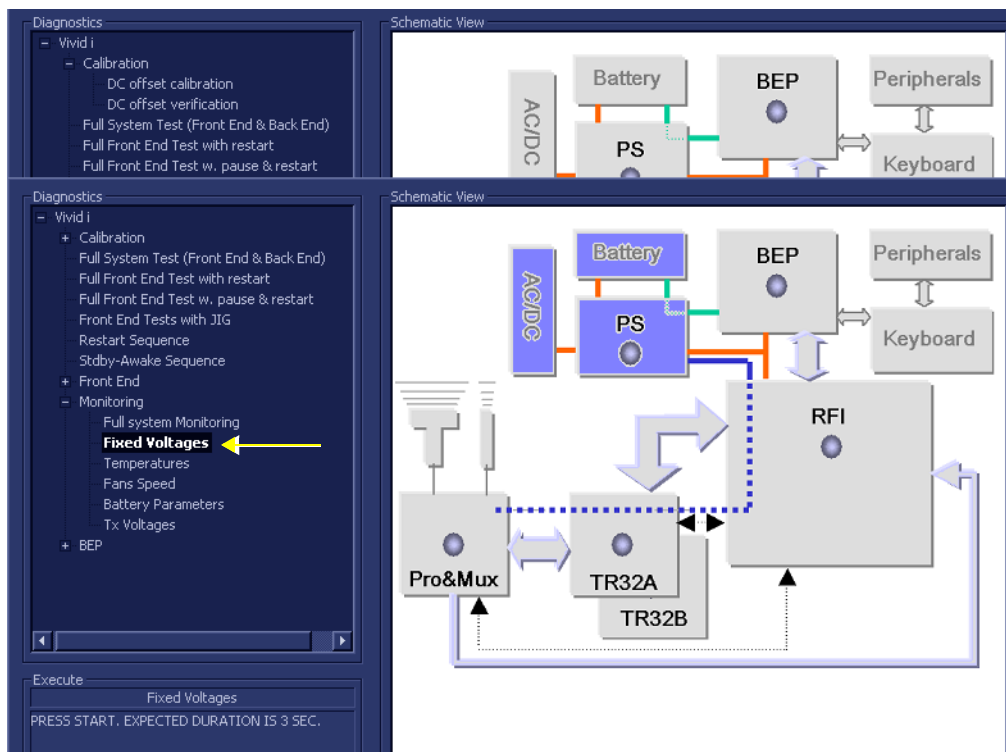

Figure 7-64 Voltages Test
- 1.) In the *Diagnostic Test* window, trackball to **Fixed Voltages** in the list of *Monitoring* tests available for selection from the Diagnostic Test Tree (see Figure 7-64 below) and press **Set**. The Fixed Voltages Test name is displayed under *Execute*; the relevant system components to be tested are highlighted light blue in the Schematic View (AC/DC, Battery, PS), as shown below: